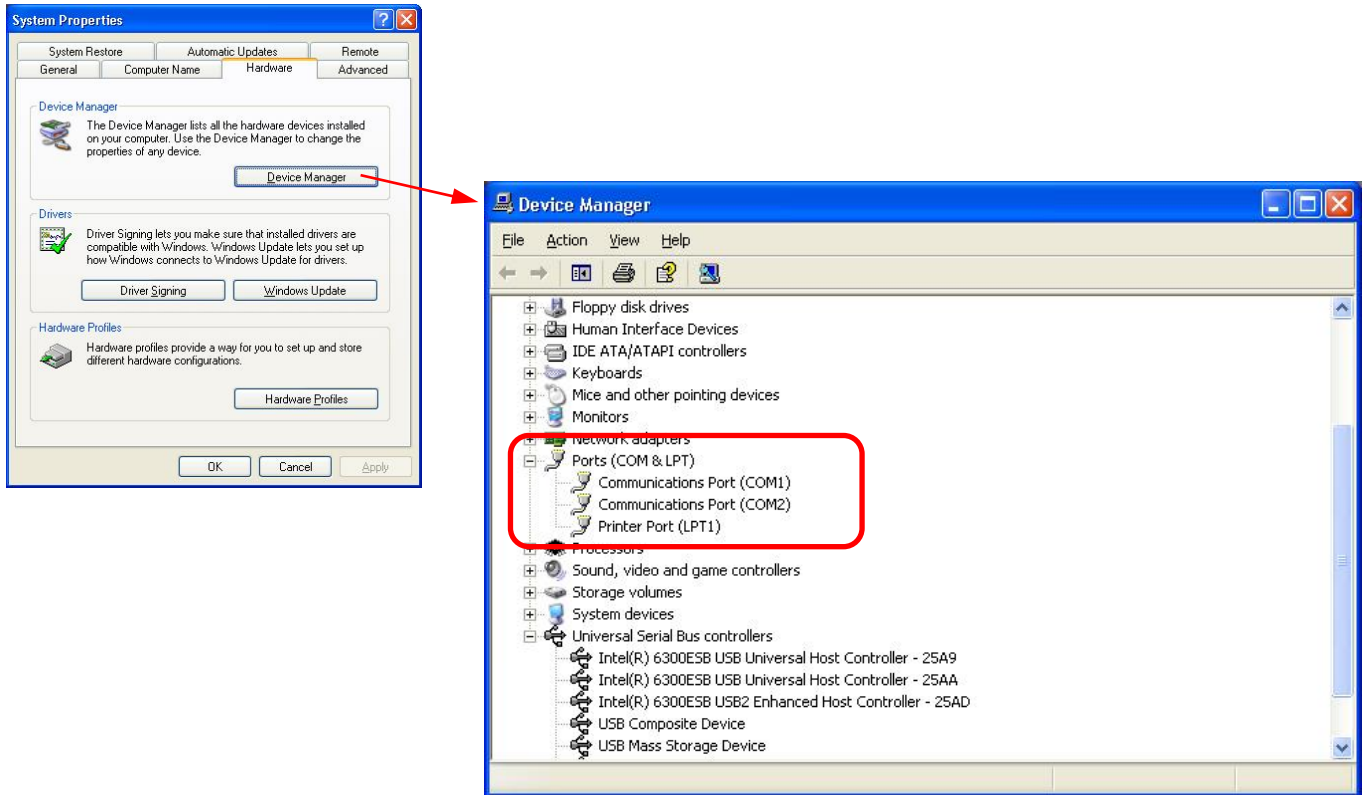

Figure 7-3 Example Device Manager Screens
6. Identify the computer port that has been added to the PC by using the “Properties” of My Computer and examining the COM ports. USB ports are generally added to the bottom of the list and named USB COM port ‘x’. Refer to Figure 7-3 for screen examples (Windows XP).